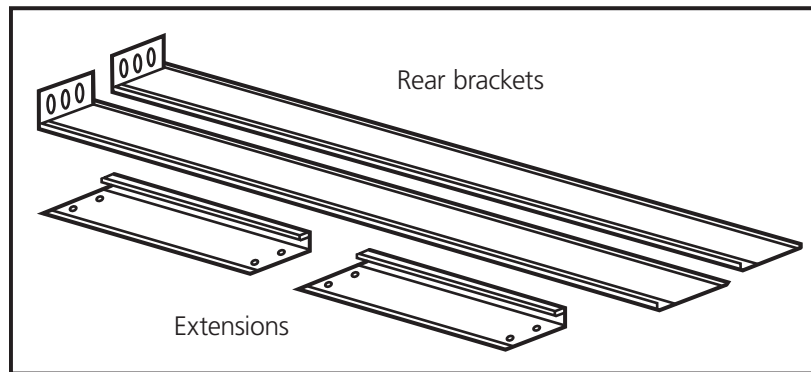
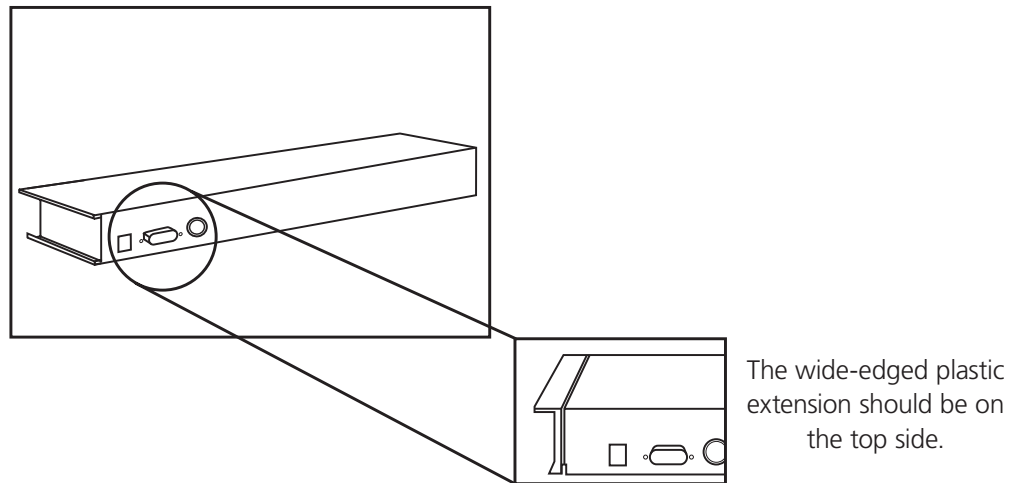

Figure 3-1. Rear brackets and extensions.
Figure 3-5. Back view of module with extensions attached.
2. Using eight counter-sunk screws (included), attach the extensions (included with your ServView V Kit) to both sides of the KVM switch module. See Figures 3-1 through 3-5. The wide-edged plastic extension should be on the top side (see Figure 3-5).
*NOTE: The CATx KVM switch modules will only accept between (2) and (4) mounting screws on each extension, depending on the kit part numbers.*